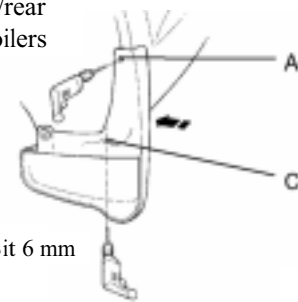

Fig. F-2
-  2. Using mudguard as a template drill 6 mm holes in locations A and C while holding part tight against body (Fig. F-2).